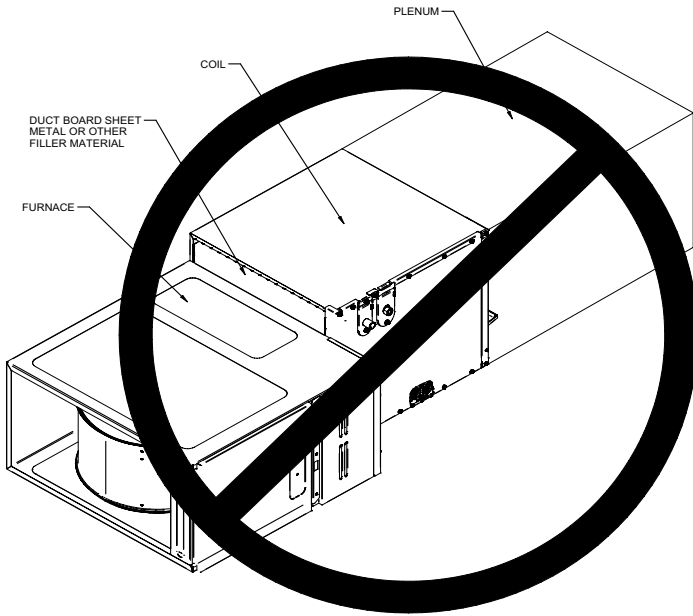

Figure 4
The leak detection sensor must be wired directly to the furnace. Follow routing diagram as shown in Figures 4 or 5 depending on orientation of install. This wiring is intended to be passed through the access hole on the furnace. If a hole must be cut into the furnace, ensure that the wiring is well protected from mechanical damage and that the hole is free from burrs or sharp edges. Utilize a protective coating for all exposed metallic edges to prevent corrosion. Verify that the A2L function (this is required for R-32 integration) is enabled on the furnace board PCB. Refer to the furnace Installation manual for further instruction on how to toggle this function from disabled to enabled. The A2L verification step as described on the furnace Installation manual must be completed before the unit is commissioned. If the test is not successful, call 1-855-DAIKIN1, option 3, for further assistance.
2. Please use Z-Bracket provided with units to fill the transition gap between furnace & coil when coil is one size larger than furnace. Additional gaps must be filled with insulated tape or putty to prevent air leakage. Figure 4 indicates incorrect coil/furnace attachment method.